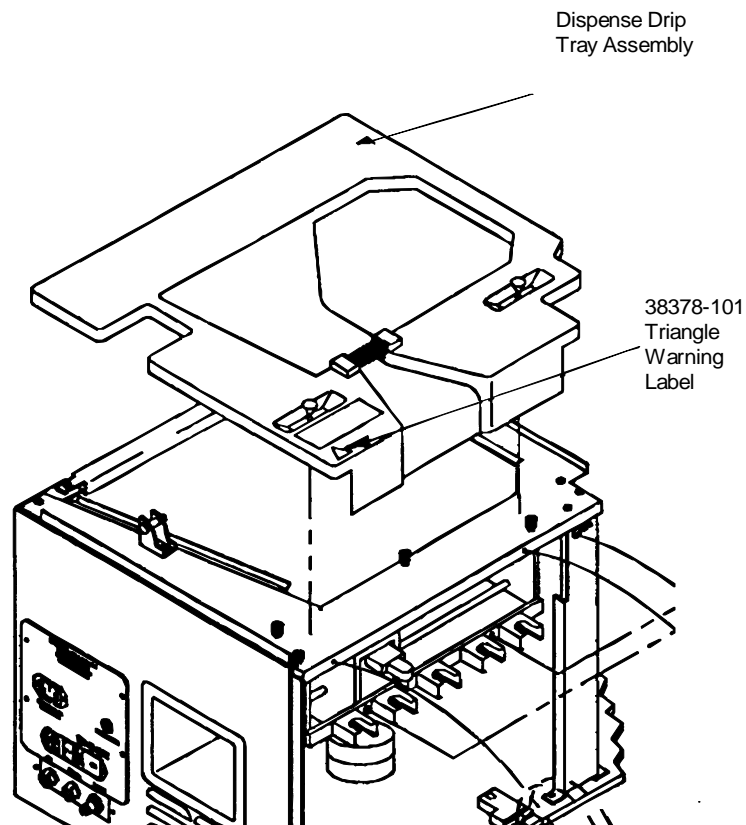

Figure 11: PPC Left Side View
- d) Apply one (1) Triangle Warning Label (38378-101), to the face of the Wash Actuator Shield as shown.
- b) Remove the Dispense Drip Tray Assembly from the PPC instrument. (Figure 11)
- c) Locate three (3) Triangle Warning Labels (38378-101), listed in the accessories parts list.
- d) Remove the protective backing from the first Triangle Label and install it onto the Drip Tray at the location designated in Figure 11.